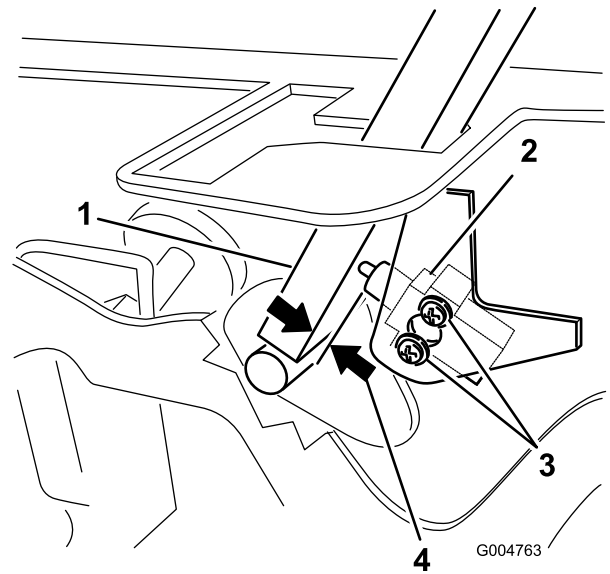

Figure 57
4. Holding the control lever against the frame, move the switch toward the lever until the distance between lever and switch body is 0.015 to 0.045 inch (0.4 to 1 mm) (Figure 57).
3. Loosen the 2 screws securing the interlock switch (Figure 57).